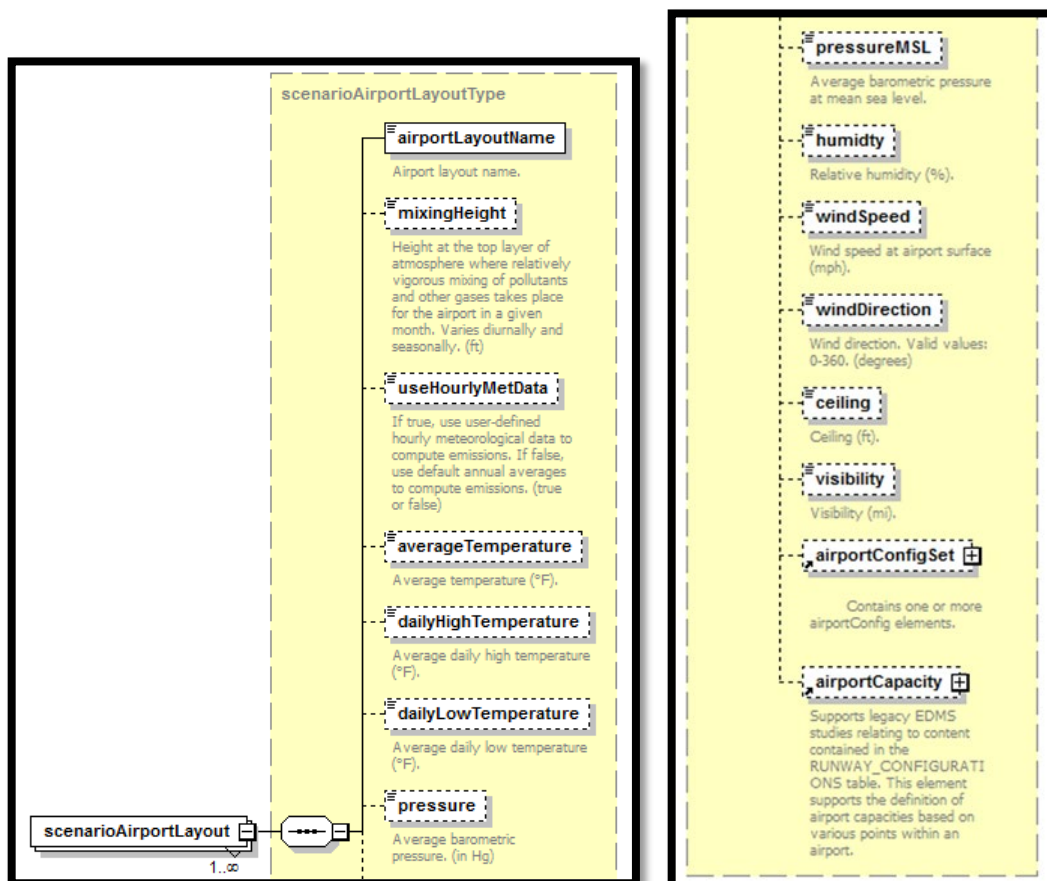

Figure 52. XML element scenarioAirportLayoutType
2. AsifXml/study/airportLayoutSet/airportLayoutType (Figure 52):
The scenarioAirportLayoutType is a subset of the airportLayoutType (see Figure 52).